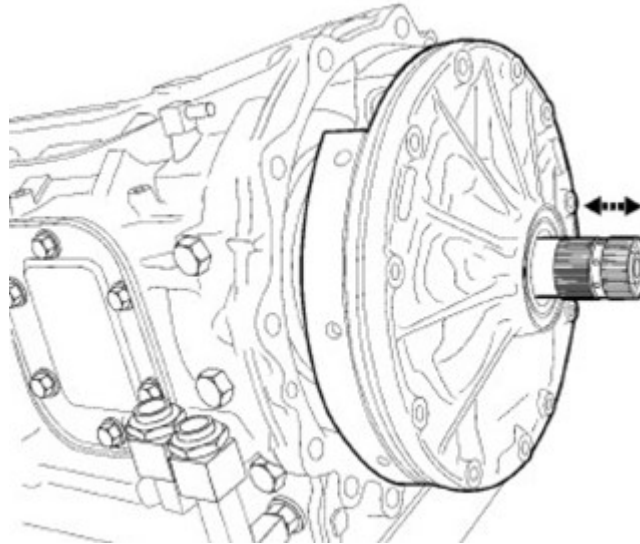

Fig. 15
25. Install the oil pump with a NEW gasket onto the transmission case (Fig. 15) .